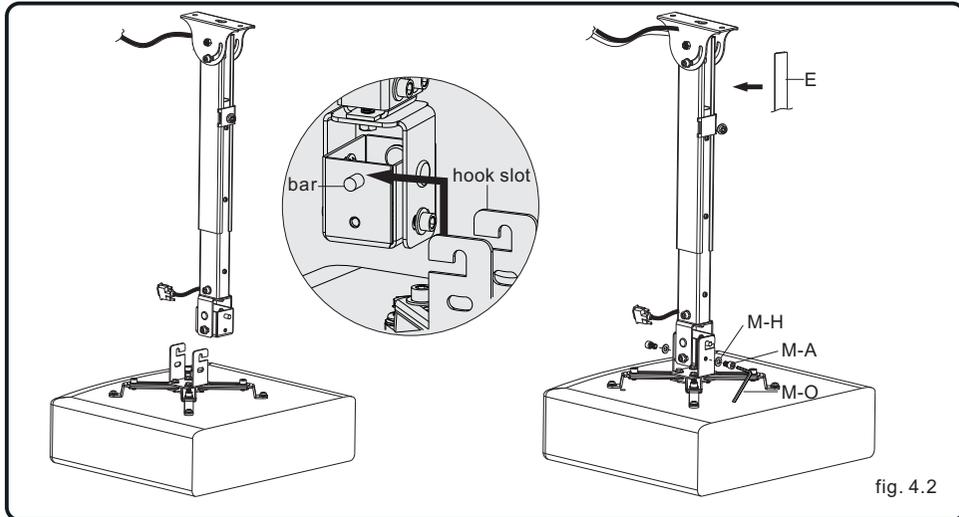

fig. 4.2
- Guide hook slots of adapter bracket onto bars in pivot bracket and secure with two screws and two washers as shown in fig. 4.2.
- Cut cable cover to the length of outer rod opening. Snap cable cover into opening as shown in fig. 4.2.